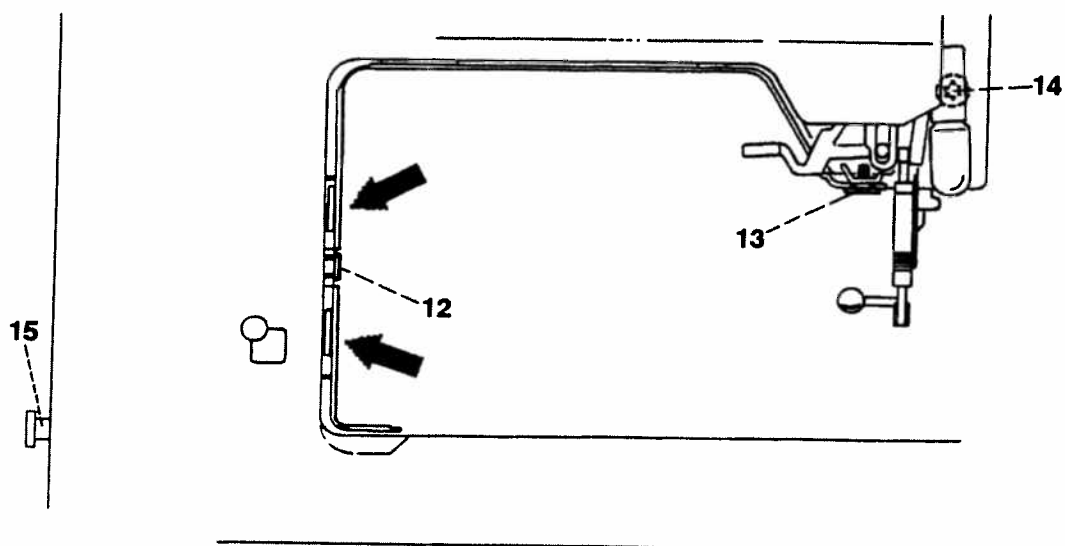

Fig. 8
- Open the catch connections on the inside of the arm by pressing with your thumb against the points indicated by the arrows (fig. 8).